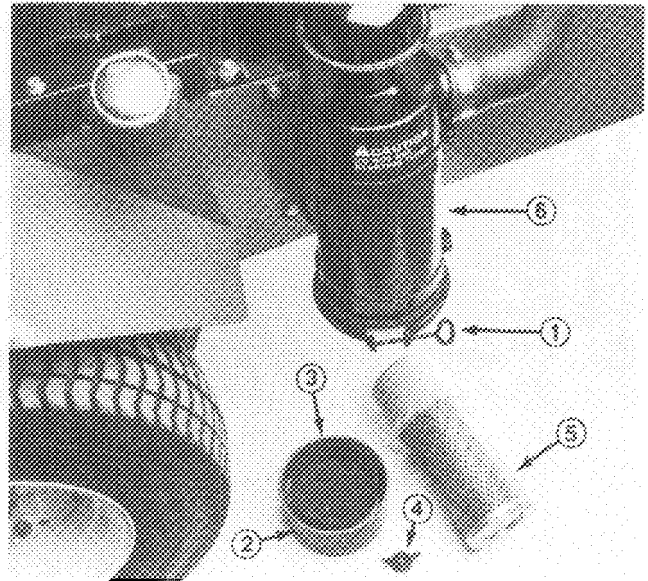

Figure 33
2. Remove wing nut w/gasket and slide filter element out of air cleaner body (Fig. 33).
1. Loosen thumb screw until dust cup and baffle can be removed (Fig. 33). Separate dust cup and baffle (Fig. 33).